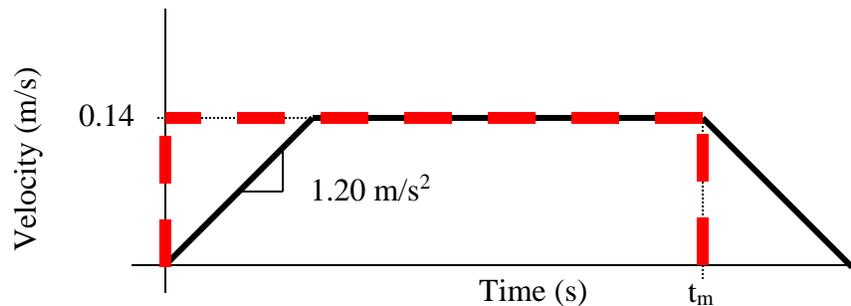

Figure 1: Drive System Velocity Profiles: Red Dashed - Command, Black Solid - Actual
Move the crane trolley a set distance using 3 different speeds. You will be giving the crane a pulse velocity command, as illustrated by the dashed line in Figure 1. However, due to the acceleration limit, the actual velocity of the crane will be a trapezoid, shown by the solid line. Speed is specified in terms of percent, with 100% being 0.14 m/s. Acceleration and deceleration are approximately 1.20 m/s^2 . Use speeds of: 50%, 75%, and 100%.
1. Calculate the move time, t_m , for each of the three speeds. Figure 1 shows the move time, t_m , in relation to the velocity profile. Keep in mind that the ramp acceleration is constant for all three cases.